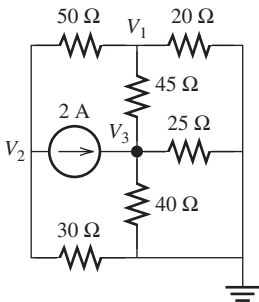

FIGURE P3.37 Circuit for Problem 3.37.
3.37 (A) Find V_1 , V_2 , and V_3 in Figure P3.37: